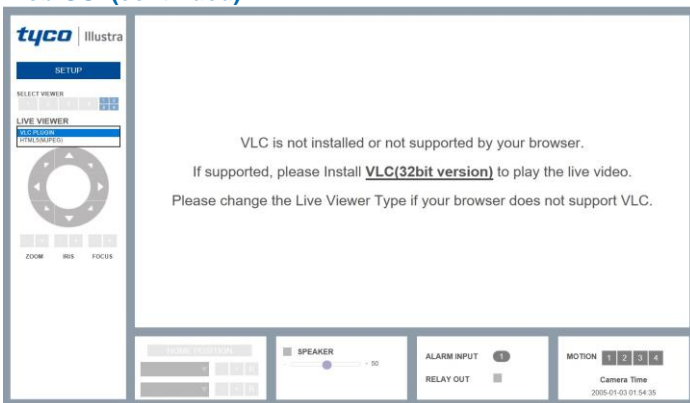

Figure 13
4. **Live Viewer** - Select one option: VLC plug-in or HTML (MJPEG). See Figure 13.